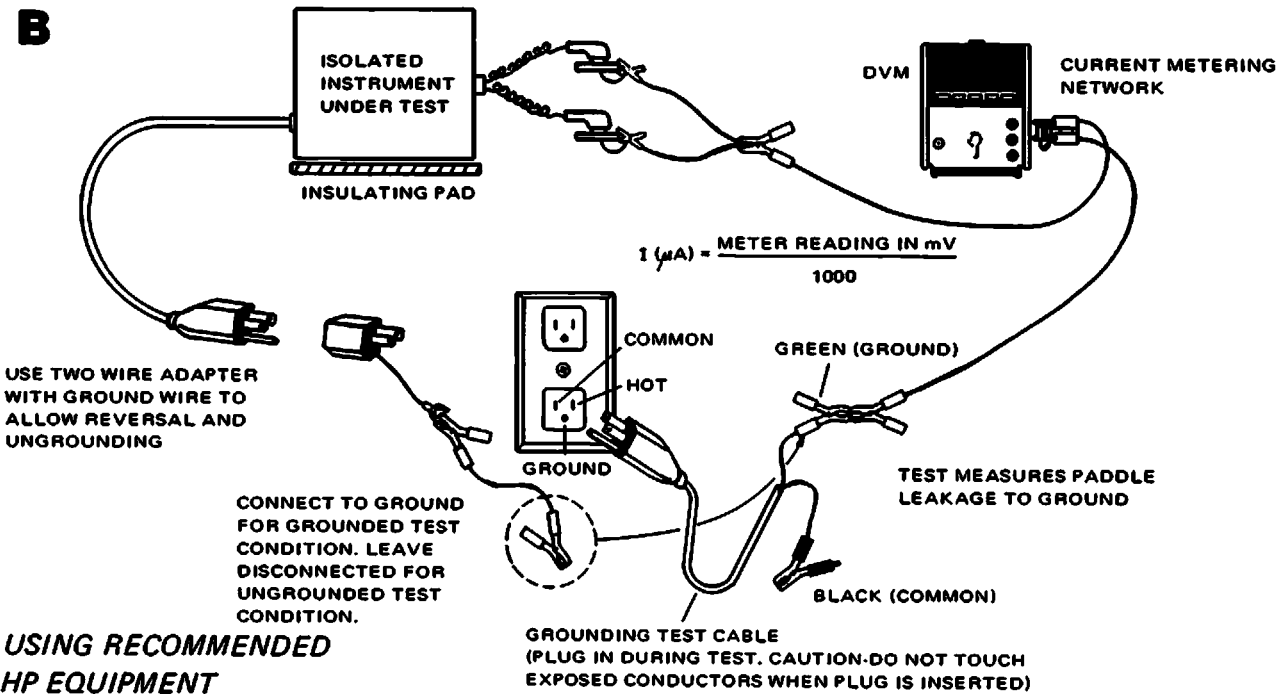

Figure 3-6. Paddle Leakage Current to Ground.
1. Connect the test equipment as shown in Figure 3-6. If the Dempsey 431F is used, follow instructions included in the figure. Use clip leads (see Figure 3-5) to connect the Apex paddle to the RA output of the Dempsey and the Sternum paddle to the LA output.